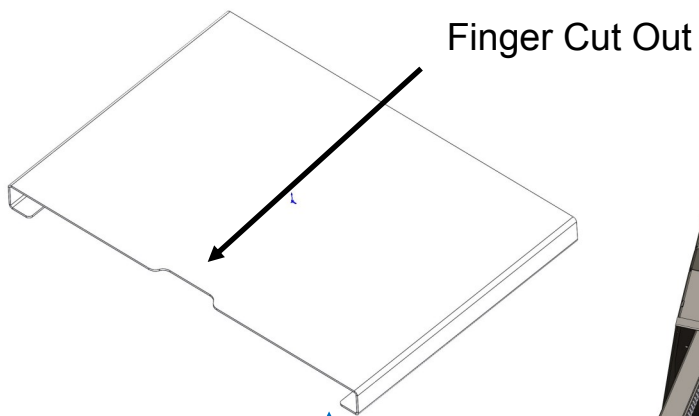

FIG. 6. Ash Pan Heat Shield
- Remove the ash pan heat shield, by using the finger cut out at the front of the part, with draw part through the ash pan opening. See Fig. 6.